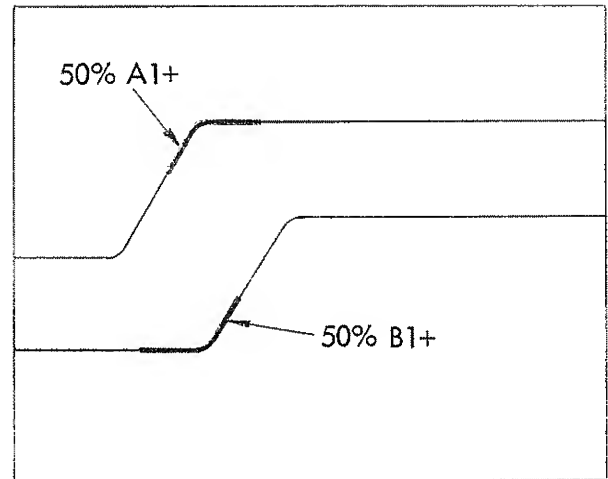

Figure 3-8 Time Difference
Time difference measurements can be made between points on two waveforms. The close coincidence of sampling points for the Models P21 and P20 Probes allows this measurement to be made with great accuracy. This is useful in comparing coincidence of signals at two ports and in measuring the propagation delay through a device. Figure 3-8 illustrates this measurement for positive transitions on A and B channels.
- b. Connect the probes to measure propagation delay through a 4 foot length of coax and adjust the controls so that the signals are displayed as shown in figure 3-8.
Time measurements can be made with the start and stop points set as voltage levels as well as percentage points on the waveform. For example, if the waveform in figure 3-8 represents the input and output of a TTL gate, the propagation delay at the 1.4 volt threshold might be desired. This is illustrated, assuming that Model P21 probes are used at a sensitivity of 1V/div. The programmed offset voltage is referenced to the 0% memory.
a. Assume that the waveform in figure 3-8 and the Model P21 probes are at 1V/cm. Connect the probes as done in section 3.6.6.